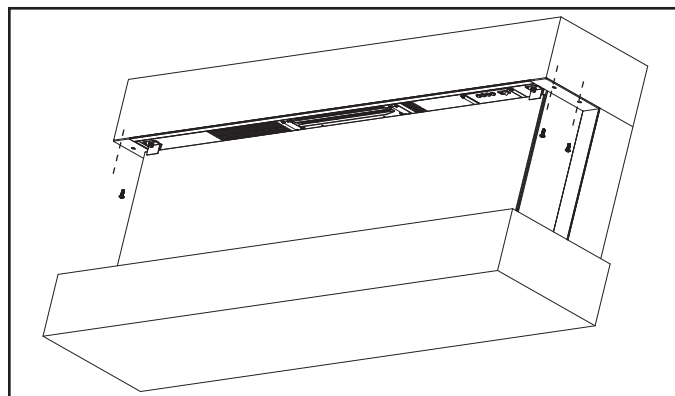

Figure 19
11. Secure the top mantel to the side brackets using two (2) M6\*16 screws on each side. See Figure 19.